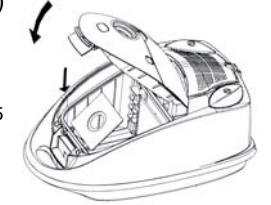

Fig. 5
4. Ensure that the cardboard face of bag rests securely in the dust bag guides. (Fig. 5)
5. Close the dust bag cover. (Fig. 5)